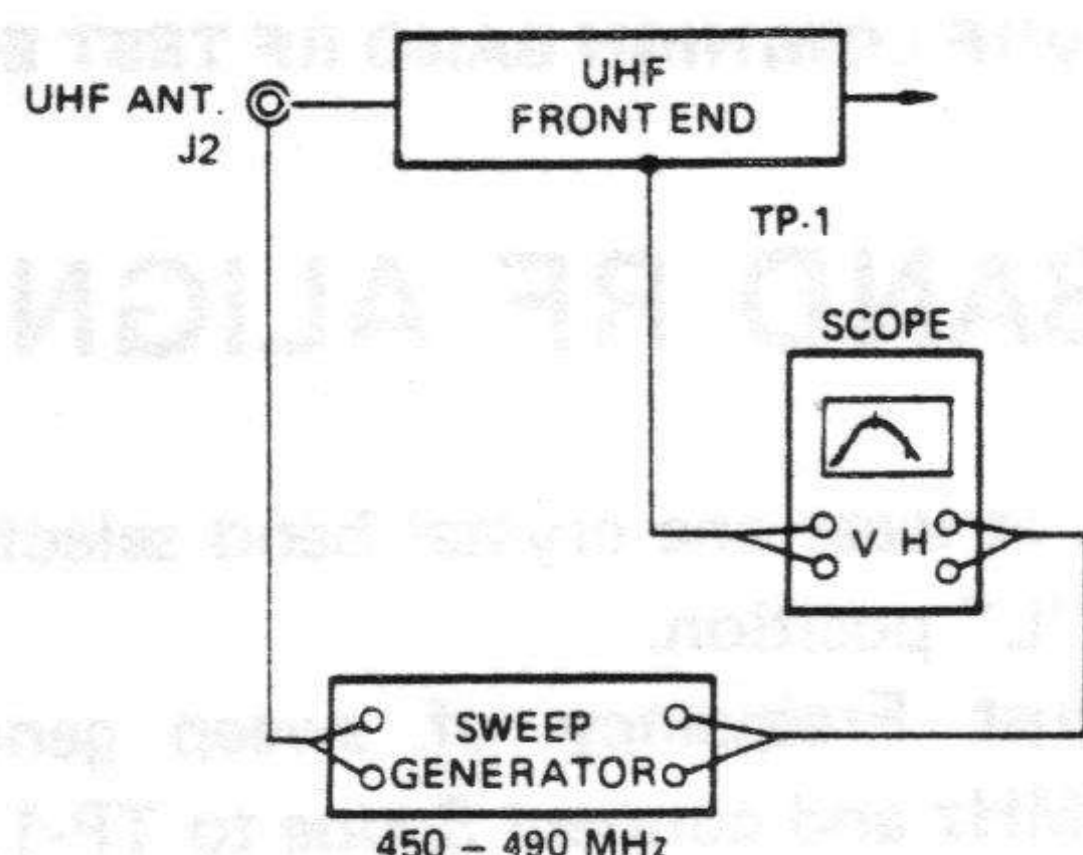

FIGURE 8. UHF FRONT END EQPT: HOOK UP
- Step 1:** Connect the instruments as shown in Figure 8.